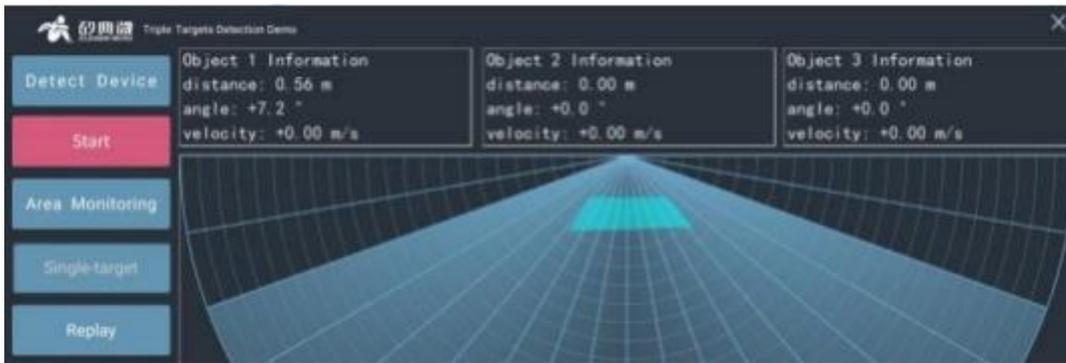
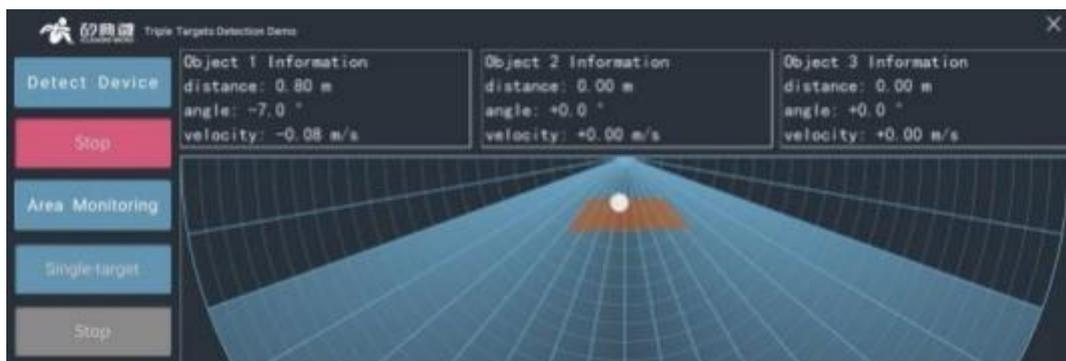
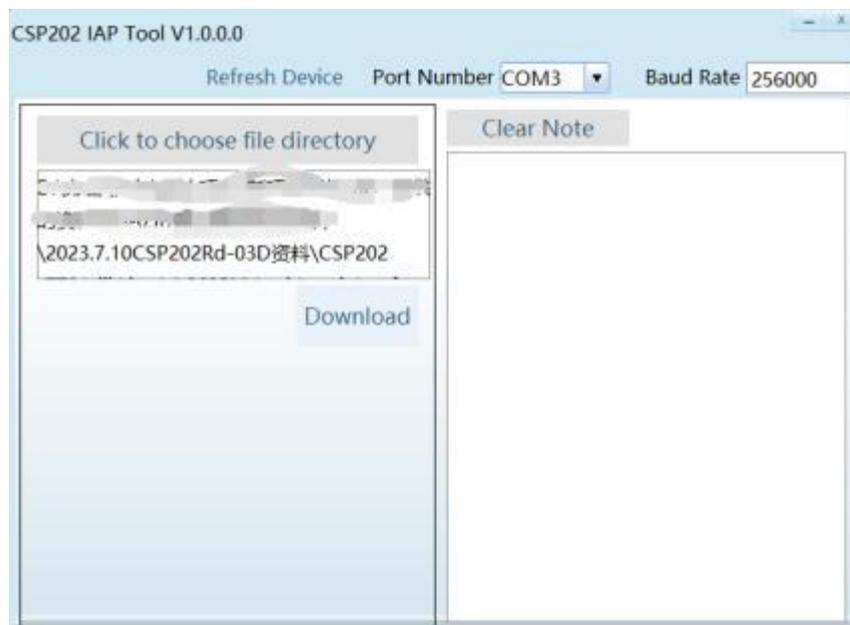

Figure 4-8 Set Monitoring Area
Figure 4-9 Targets in Monitoring Area
Figure 4- 13 Rd-03D the firmware upgrade tool
Step 1: Use the connection line to connect the Rd-03D module and the serial port tool, the connection method is shown in Figure 4- 1, through the serial port tool to connect the module and the upper computer;
Step 3: Click the "Add Lighting Area" button on the "Area Monitoring" setting page to start setting the monitoring area: left-click the mouse in the fan-shaped area on the interface to set each vertex of the monitoring area, and right-click the mouse to finish setting the monitoring area. The upper computer tool will connect each vertex into a polygon and display it in the interface according to the sequence of mouse clicks. The area surrounded by the polygon is the monitoring area. Figure 4-8 shows a quadrilateral monitoring area. When someone enters the monitoring area, the background color of the monitoring area will change to "target color"; after the human body leaves the detection area, the color of the area will change back to "no target color", as shown in Figure 4-9 and Figure 4- 10;
Step 3: Open the firmware upgrade tool, click the "Refresh Device" button, select the serial port number of the radar module in the "Port Number" drop-down box, and the baud rate is 256000, as shown in Figure 4- 13;
Step 4: click the "click to select file path" button to select the ufw file to be upgraded; click the "download" button to start the firmware upgrade, the prompt messagebox on the right will display the download result in realtime, and the download progress will be displayed below the prompt box, as shown in figure 4- 14;